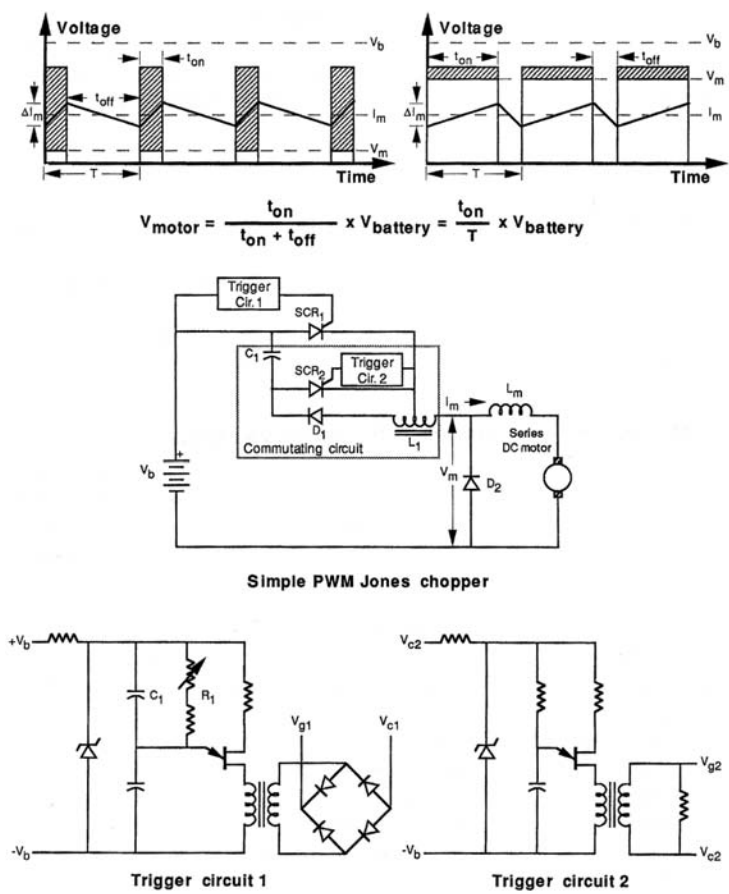

FIGURE 7-1 Summary of Jones switch PWM chopper controller characteristics.
The easiest way to vary the DC voltage delivered to a DC motor is to divide its steady, nonvarying DC component into smaller pieces (see Figure 7-1). The average of the number or size of these pieces will be a resultant DC voltage that the motor “thinks” it is receiving. At the top left of Figure 7-1, the value of the voltage delivered to the motor is
The Jones chopper circuit shown in the middle of Figure 7-1, adapted from an early GE SCR manual, is one of the simplest variations. Earlier, similar PWM circuits were also built in transformerless style using transistors. The Jones chopper is easy to look at and analyze, and its basic lessons apply to all PWM controllers.
- It “smooths” motor current I_m and enables it to continue to flow when SCR_1 is not conducting (top of Figure 7-1), and prevents the inductive-current-generated high-voltage spikes, which could potentially damage the transistors, from appearing across the motor when SCR_1 is turned off.
- Diode D_1 prevents the L_1 – C_1 combination from oscillating. Other than the SCRs and diodes, the key circuit elements are the center tapped autotransformer (both windings have the same number of turns, inductance, etc.), whose inductance is simply labeled L_1 in Figure 7-1, the capacitor labeled C_1 , and the combined series motor and external inductance labeled L_m .
The frequency of the chopper is controlled by the R_1 – C_1 combination (where R_1 is the sum of the fixed and variable resistors in that branch of the circuit) in trigger circuit 1 shown at the bottom left of Figure 7-1. In this case, a unijunction transistor forms the heart of a relaxation oscillator whose period is controlled by the RC time constant such that